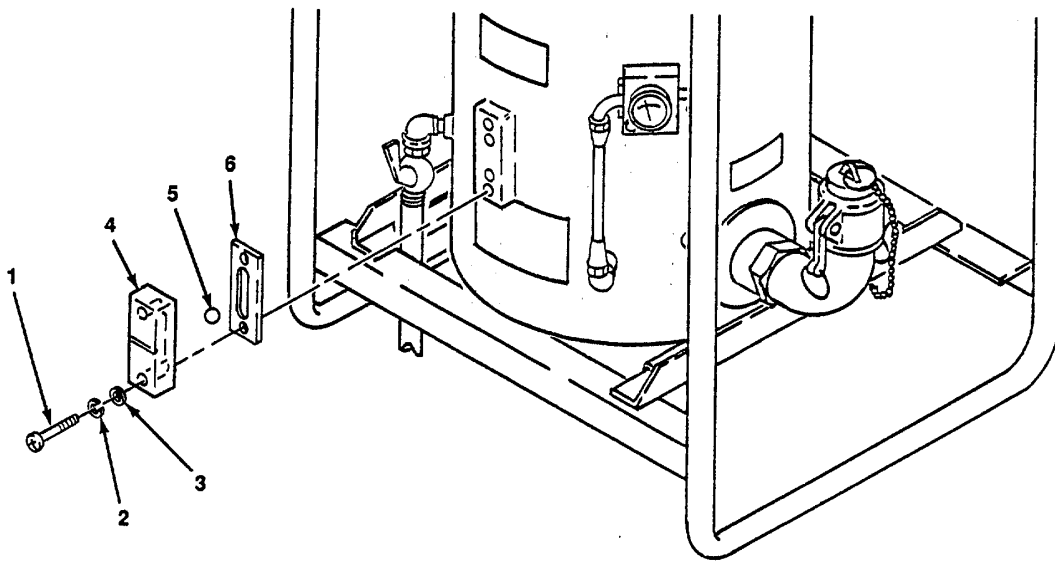

Figure 4-15. Sight Gauge, Replace.
*Replace.* (figure 4-15)
- (1) Remove two screws (1), lockwashers (2), and washers (3) and remove sight Gauge (4), ball (5) and gasket (6).
- (2) Ensure gasket surfaces are clean and old gasket material completely removed.
- (3) Install gasket (6), ball (5), and sight Gauge (4) and secure with two screws (1), lockwashers (2), and washers (3).